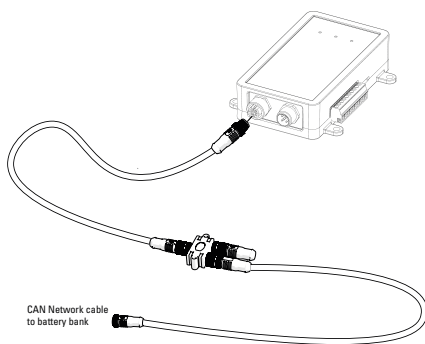

Figure 15. CAN Connection J1 to BCI
For connecting the BCI to a computer, a CAN to USB converter is required, see table 12. Refer to Figure 15 for connecting the CAN to USB converter to the BCI.
1. Connect one Li-ion battery to the CAN Master bus (see figure 15).